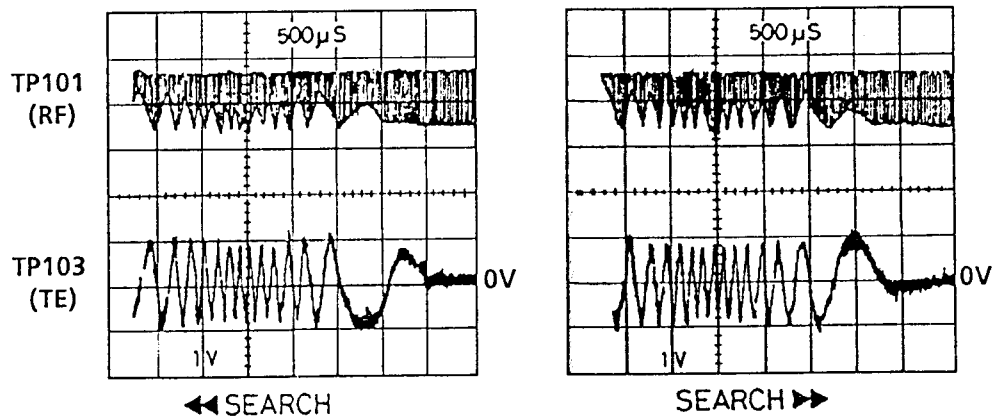

Fig.1
- ① Connect the frequency counter to TP37(H), TP104(E).
- ② Turn on the power of the unit.
- ③ Adjust T102 so that the frequency counter reads 4.30 ± 0.01 MHz.
- ① Connect the oscilloscope to TP103(TE), TP104(E).
- ③ Insert Test Disc and press the Play button.
- ④ Continuously press the forward(or reverse) search button.
- ⑤ Adjust SVR11 so that the waveform of TP103(TE) is vertically symmetrical relative to DC 0V level. (Refer to fig.1.